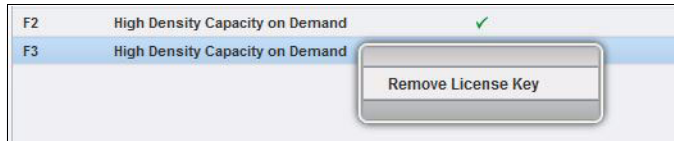

Figure 4-18 Remove License Key
- ▶ Intermediate high-density (HD) Capacity on Demand (CoD) increases storage from the entry capacity to the intermediate capacity. The Intermediate CoD feature (Feature Code 1643) adds 100 slots, increasing the usable capacity of the L25 and L55 (Lx5) frames to 200 slots.
- ▶ It is possible to remove a licensed function by using right-click a licensed function and selecting **Remove License Key** as shown in Figure 4-18.